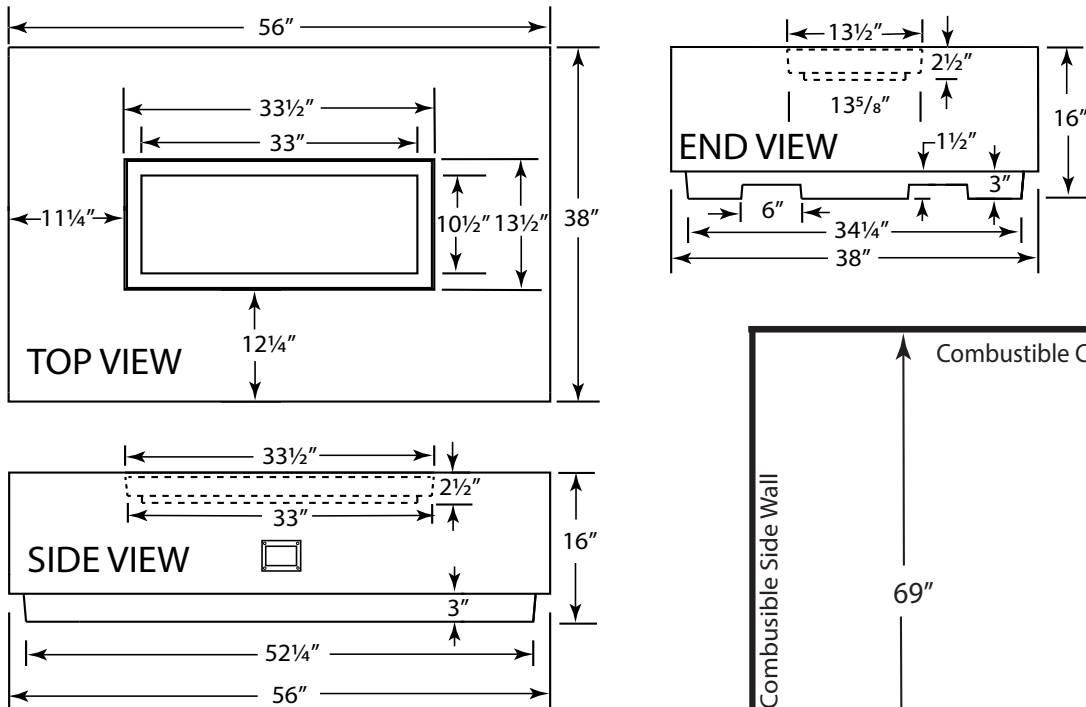

Fig. 1 Sanctuary Dimensions
The Sanctuary 1 can be plumbed with either Natural or Propane (LP) gas. If you choose to run hard pipe underneath the Sanctuary 1, protrude pipe no higher than 6" above ground. Fig. 1.